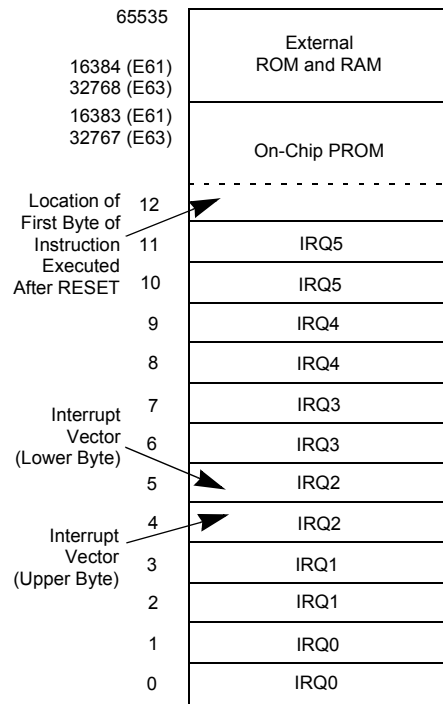

Figure 11. Program Memory Configuration
**Program Memory.** The Z86E61/E63 can address 48 Kbytes (E61) or 32 Kbytes (E63) of external program memory (Figure 11). The first 12 bytes of program memory are reserved for the interrupt vectors. These locations contain six 16-bit vectors that correspond to the six available interrupts. For EPROM mode, byte 13 to byte 16383 (E61) or 32767 (E63) consists of on-chip EPROM. At addresses 16384 (E61) or 32768 (E63) and above, the Z86E61/E63 executes external program memory fetches. In ROMless mode, the Z86E61/E63 can address up to 64 Kbytes of program memory. Program execution begins at external location 000C (HEX) after a reset.